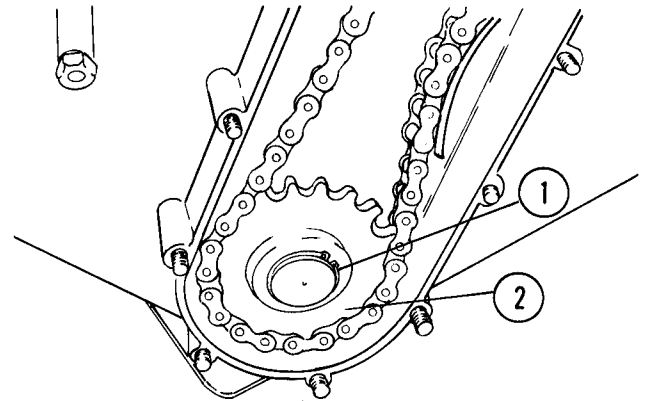

Fig. 21 — Tine Shaft Sprocket
11. Remove snap ring on end of tine shaft, Figure 21.